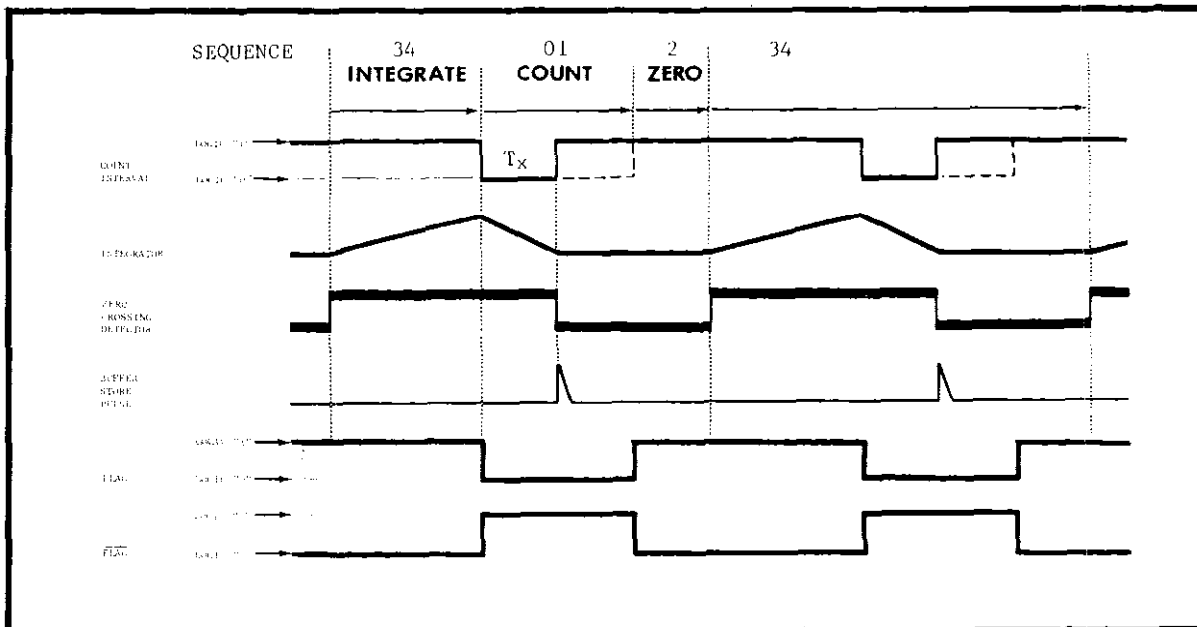

FIGURE 7b. Timing Diagram.
4. Timing Diagrams. The timing diagram shown in Figure 7b illustrates the time sequence of a single overall A-to-D conversion cycle. Figure 7c shows how the conversion cycle is controlled by the Hold and Trigger lines.
a). Integrate Period (34). During this period the analog signal is applied to the integrating amplifier. The slope of the ramp waveform shown in Figure 7b has a sign opposite the polarity of the input signal.
b). Count Period (01). During this period the integrating amplifier is driven to zero by the proper polarity discharge voltage (the analog signal is removed from the integrating amplifier). During this period a p-p pulse is generated which updates the data in the latches.
c). Zero Period (2). During this period the integrator is zeroed and the decade counters are reset prior to a new conversion cycle.
b) COUNT INTERVAL: This line is at Logic "0" for a time (T_x in Fig. 7b) proportional to the input signal; 10 μ s corresponds to 1 digit. The COUNT INTERVAL output may be used with an external binary ripple counter and gate to obtain a reading directly in binary form. The Logic "0" to "1" transition of COUNT INTERVAL occurs prior to the p-p pulse. Therefore it is not intended for use as a flag.